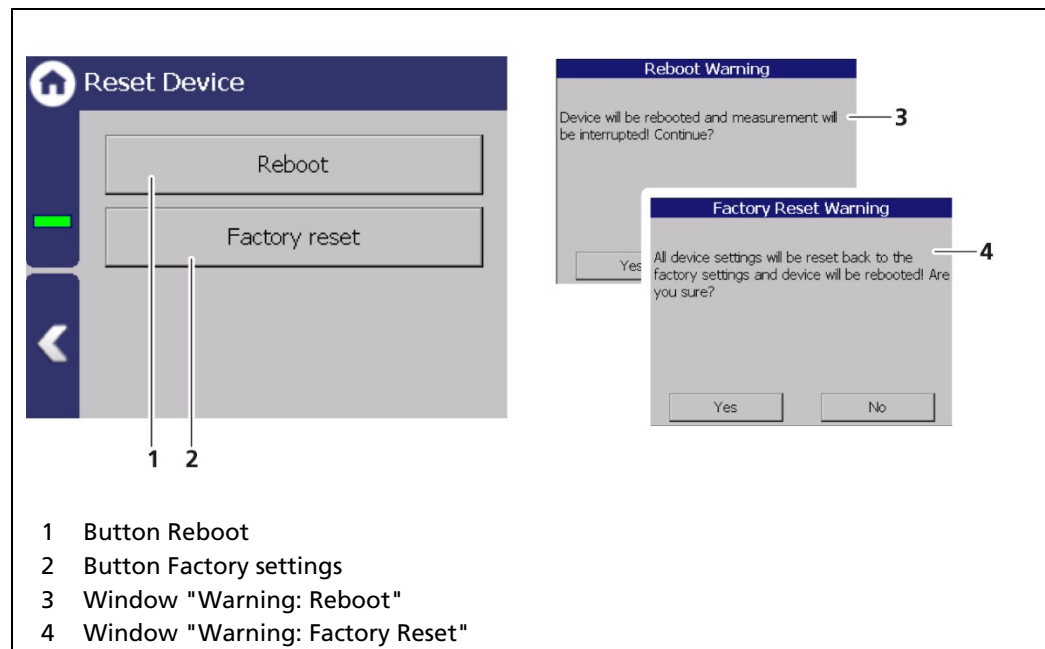

Fig. 50 Reset device
1. To restart the device, click the button <Restart> (Fig. 50, item 1).
- ▶ A window with a warning "Restart" (Fig. 50, item 3) opens.
1. To reset the evaluation unit to the factory settings, click the button <Factory settings> (Fig. 50, item 2).
- ▶ A window with the warning "Factory settings" (Fig. 50, item 4) opens.